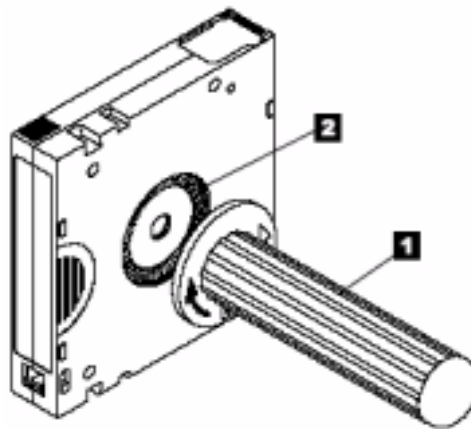

Figure 4-5 Rewinding the tape into the cartridge
5. To rewind the tape, insert the cartridge manual rewind tool (❶ in Figure 4-5) into the cartridge's hub ❷ and turn it clockwise until the tape becomes taut.